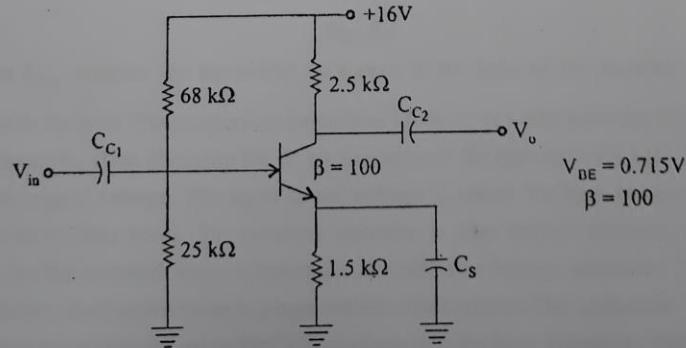

Fig. 1.71
- In a circuit shown in Fig. 1.71, determine the co-ordinates of operating point of the transistor. Draw the dc load line on output characteristics and show the location of Q-point. Comment on region of operation. Determine  $S_{ICO}$ .